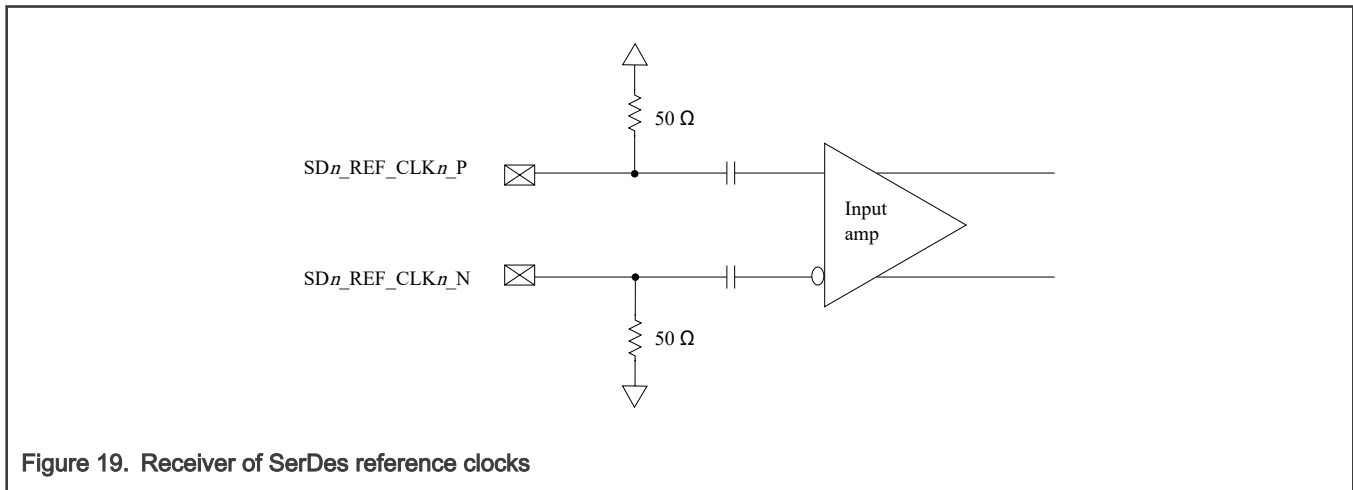

Figure 19. Receiver of SerDes reference clocks
- The PCI_CLK_P and PCI_CLK_N are internally AC-coupled differential inputs as shown in Figure 19. Each differential clock input (PCI_CLK_P and PCI_CLK_N) has on-chip 50 Ω termination to SGNDn followed by on-chip AC-coupling.
- For an external DC-coupled connection, as described in Figure 19, the maximum average current requirements set the requirement for average voltage (common mode voltage) as between 100 mV and 400 mV.